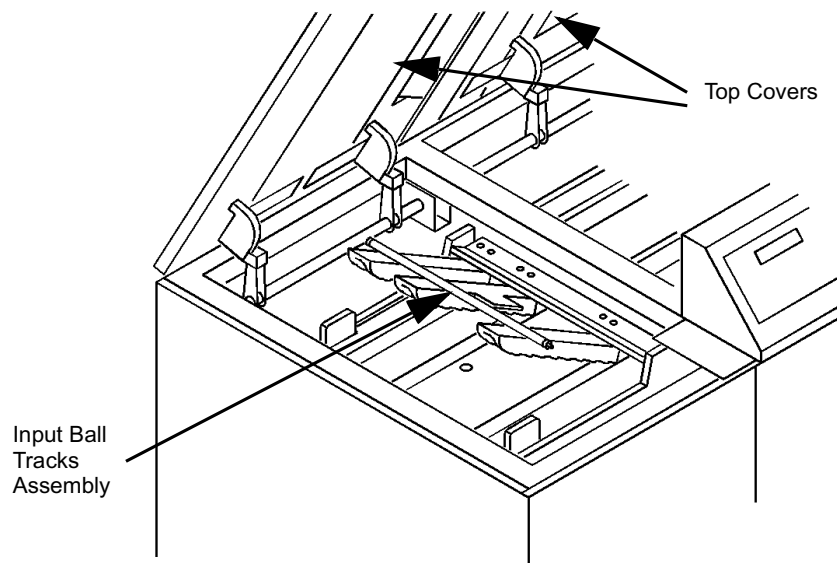

Figure 4-1: The Top Covers and Input Ball Tracks
- 1 Open the Top Covers on the FusionPunch II, as shown in Figure 4-1.
- 2 Open (lift) the Input Ball Tracks, as shown in Figure 4-1. Clean the green belt under the three ball tracks, the Sensor Reflector and the Sensor (under the hole in the base plate) with Isopropyl alcohol and a clean, lint-free cloth. Check also for accumulations of paper dust or toner under the base plate.